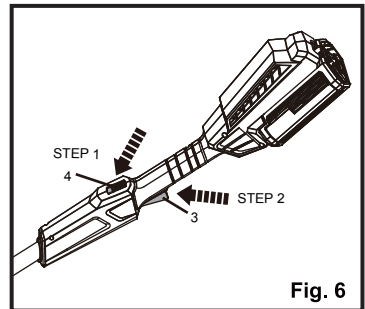

Fig. 6
ON / OFF SWITCH (See *Figure 6*)
- Push the lock-off switch (4) forward and hold it in position (Fig.6, STEP 1).
- Press the on/off switch (3) to switch the product on (Fig.6, STEP 2). The lock-off switch can then be released.